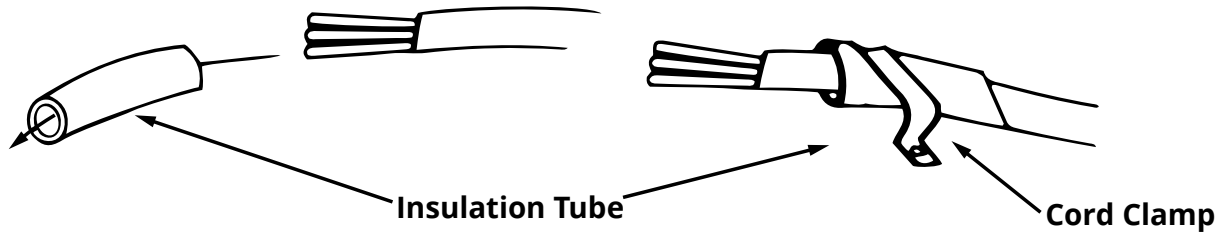

Fig. 2.16
5. Lead the connection wire and power cord through the insulation tube. Then secure the wires with wire clamps (as shown in Fig. 2.16).